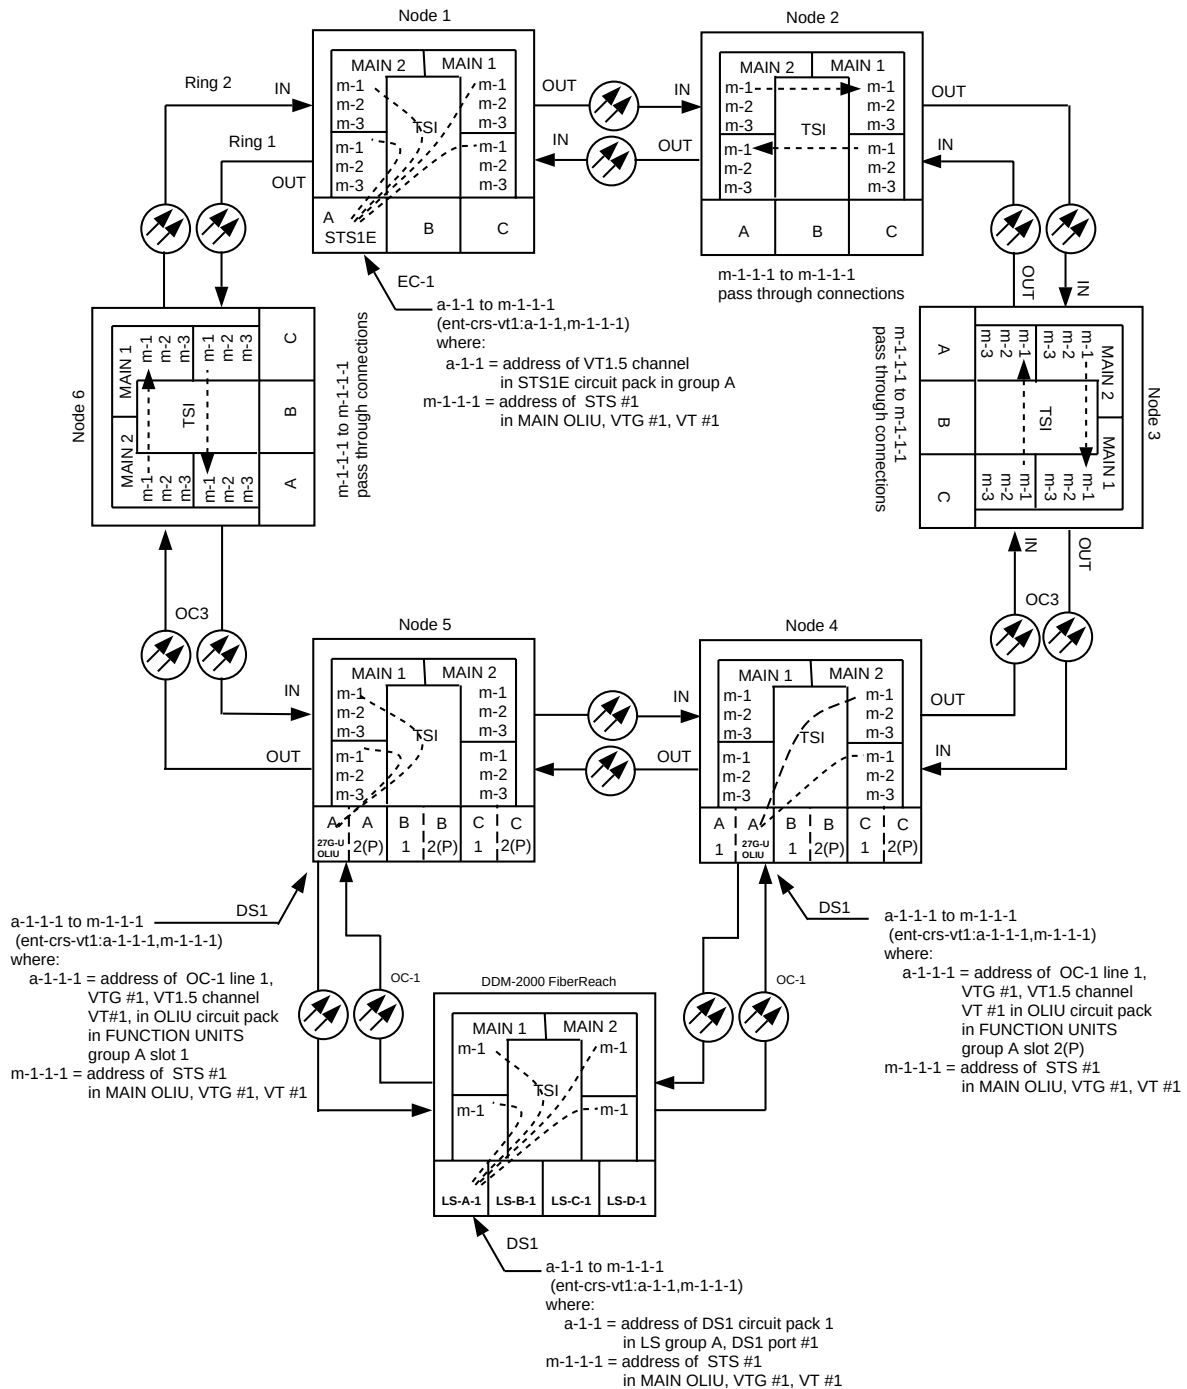

Figure 4. Example of Dual Homing OC-3/OC-1 Cross-connections
2. Verify system configuration is same as specified on work order or circuit order. For example, see Figures 4 through 12.
Cross-connections consist of drop and pass-through connections. For example in Figure 4, drop connections are made at Nodes 1, 4, 5, and the FiberReach node. Pass-through cross-connections are made at Nodes 2, 3, and 6. Also, cross-connections must be made in all interconnected rings, including other DDM-2000 OC-3 rings, DDM-2000 OC-12 rings, and FT-2000 OC-48 rings, as required.
In dual homing configurations (Figures 4 and 5), **OLIU** circuit packs must be installed in the correct slots in the host OC-3 nodes to support the direction of traffic required. For example in Figure 4, for traffic to be routed between Node 1 and the FiberReach system, the **27G-U/27G2-U OLIU** must be installed in **FUNCTION UNITS (FN) GROUP A, B, or C, slot 1** of Node 5 and **FUNCTION UNITS GROUP A, B, or C, slot 2(P)** of Node 4. This is required because traffic entering Node 5, slot **FN-A-1** from the FiberReach shelf, is automatically connected to the **MAIN-1 OLIU** when cross-connections are made. Traffic entering slot **FN-A-2(P)** is automatically connected to the **MAIN-2 OLIU**.
11. At both terminating (drop) nodes of the circuit being established, use the **ent-crs-vt1**: command to make the terminating cross-connections (for example, Node 1 and FiberReach node in Figure 4, **ent-crs-vt1:m-1-1-1,a-1-1:cct=twoway**)
12. At the host OC-3 ring node sites, make proper cross-connections. For example in Figure 4, at Node 5, if VT1.5 channel #1, VTG #1, STS #1 from the MAIN 1 OLIU is to be cross-connected to function group A, OC-1 line #1, then the command **ent-crs-vt1:m-1-1-1,a-1-1-1:cct=twoway** would be used to make the cross-connection.